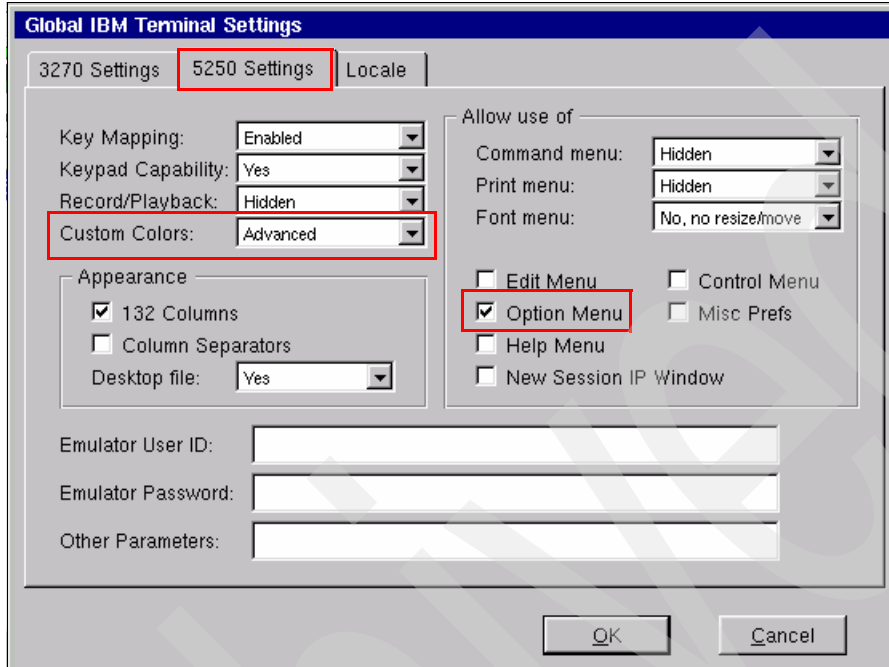

Figure 4-35 Neoware Connection Manager: 5250 Settings tab
1. From the 5250 Settings tab, select **Advanced** against Custom Colors and select the check box against **Option Menu**, as shown in Figure 4-35.